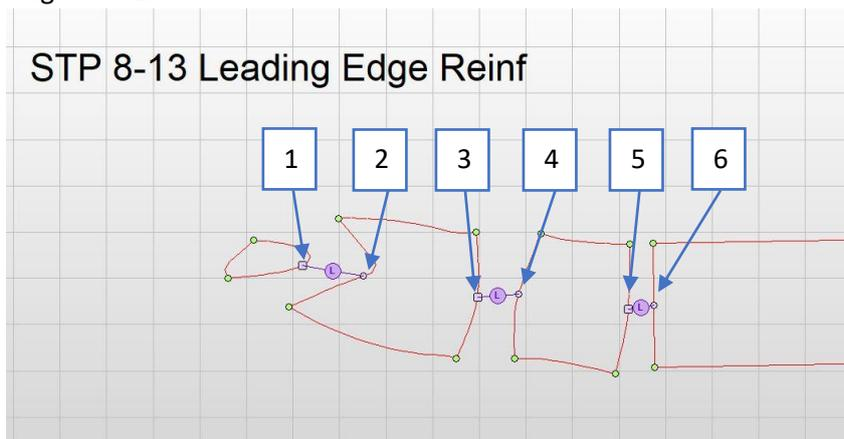

Figure 302
- 98. And link the segments of our Leading Edge Reinforcement MasterCuts. To get the same behavior later, when modifying the links, it makes sense to select the segments one after the other as emphasized in Figure 302.